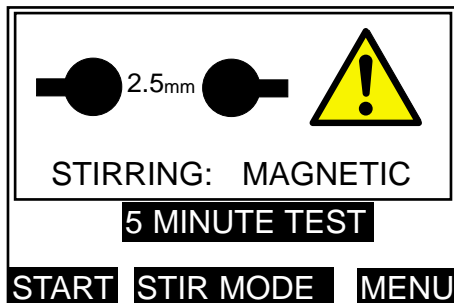

Figure 7. Initial Stir Mode selection display screen.
1. To commence the test, highlight 5 MINUTE TEST on the main menu and press select. The display will appear similar to figure 7.
1. To commence, highlight the selected test on the main menu and press SELECT. The display will appear similar to figure 7. Press the right hand key marked MENU to return to main menu. Repeated pressing of the centre key labelled STIR MODE changes the stirring choice through MAGNETIC, IMPELLER or NONE.
The display will appear similar to figure 7.
1. To commence the test, highlight ASTM D1816-84a on the main menu and press SELECT. The display will appear similar to figure 7. Repeated pressing of the centre key labelled STIRMODE changes the stirring choice through MAGNETIC, IMPELLER or NONE. Press the right hand key labelled MENU to return to the main menu.